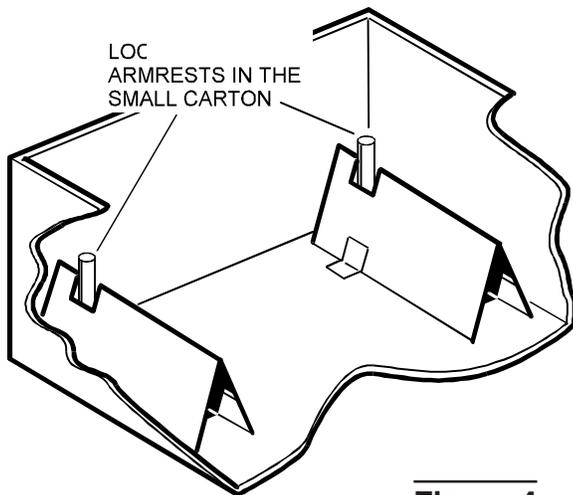

Figure 4
1. Unpack the armrests and discard all packing materials. The armrests are secured to the bottom of the small carton (Figure 4).